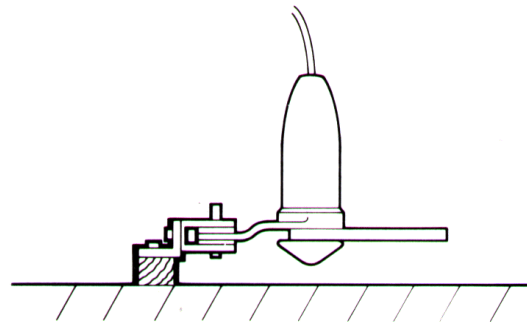

Fig.16
In cases where the steering wheel is mounted on a bulkhead, special provision usually must be made to mount the drive unit. (L) brackets are available to mount the clevis on a bulkhead as shown. (Fig.16).